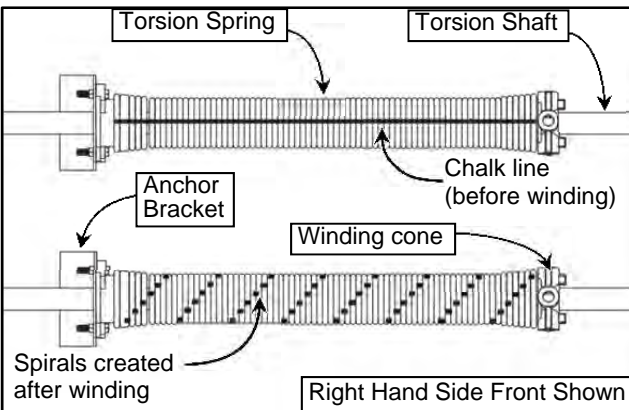

Figure 42
8. Draw a straight chalk line horizontally along the center of the torsion spring. The spiral can be used to count and determine the number of turns that are applied in winding the spring. (See Figure 42)
12. Alternately continue to wind/adjust the spring until the required number of Spring Turns for your door as listed in the Object List is achieved and/or the desired preload is achieved. (See Figure 14 & Figure 42)